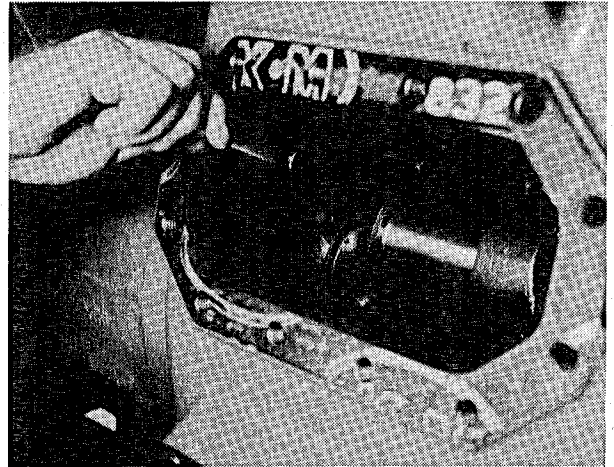

Figure 59
- Measure crankshaft end play: .005 to .028. Push the shaft against the motor end thrust bearing. Using a feeler gauge, measure the distance between the shoulder of the shaft and the thrust bearing at the oil pump end of the shaft (Figure 59). Repeat the measurement of the motor end thrust bearing after pushing the shaft against the pump end thrust bearing. The measurement should be identical at both ends of the crankshaft. If it varies, check the position of the thrust bearings. Table 1 lists thrust bearing wear limits. **CRANKSHAFT END PLAY — .005-.028.**
- b. Using a feeler gauge, measure the clearance between the shaft and the thrust bearing at the oil pump end of the shaft (Figure 59).